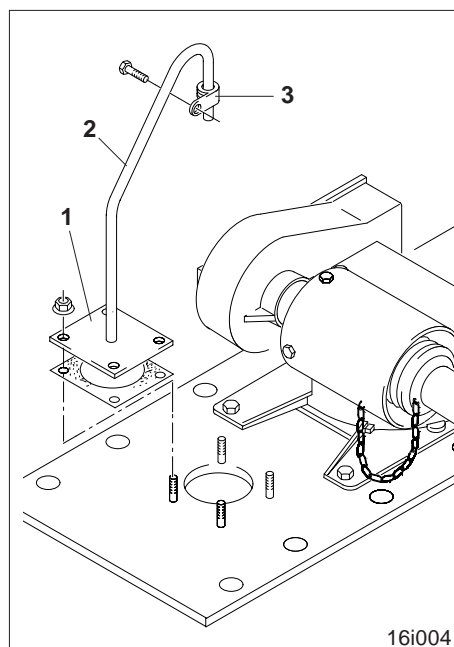

Fig. 19.5
The oil level in the spur gear housing is to be checked every 100 operating hours. The teeth of the spur gears must be half covered with gear oil when the soil tillage implement is in a horizontal position. Remove the inspection cover (Fig. 19.5/1) to check the oil level. First loosen the breather tube (Fig. 19.5/2) and afterwards, refasten it using a tube clamp (Fig. 19.5/3). The spur gear housings are filled at the factory with .:
**The inspection cover is equipped with a breather tube (Fig. 19.5/2). Ventilation must always be provided to prevent damage!**